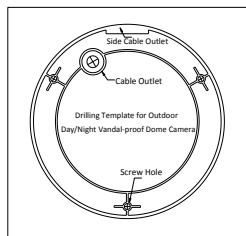

Figure 2-2 Drill Template/Mounting Base
3. Using to the drill template as shown in Figure 2-2, drill three screw holes in the wall or ceiling. Or, mark and drill the number “1” holes in the plate.